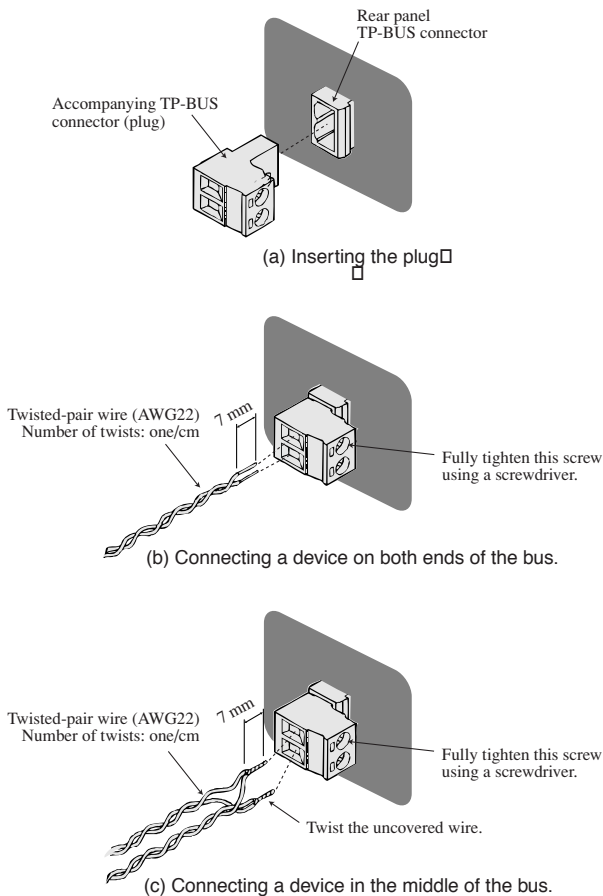

Fig. 2-5 Wiring the TP-BUS connector
2. As shown in Fig. 2-5 (a), insert the accompanying TP-BUS connector (plug) into the TP-BUS connector on the back panel.
4. As shown in Figs. 2-5 (b) and (c), insert the cable into the connector.